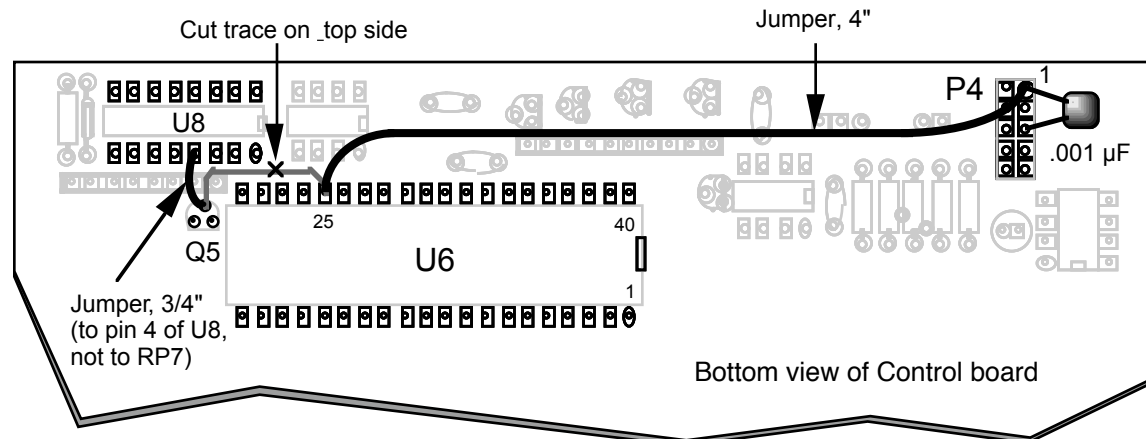

Figure 40
- Figure 40 shows the *bottom* side of the Control board, where most of the changes will be made. One trace will be cut on the *top* side.